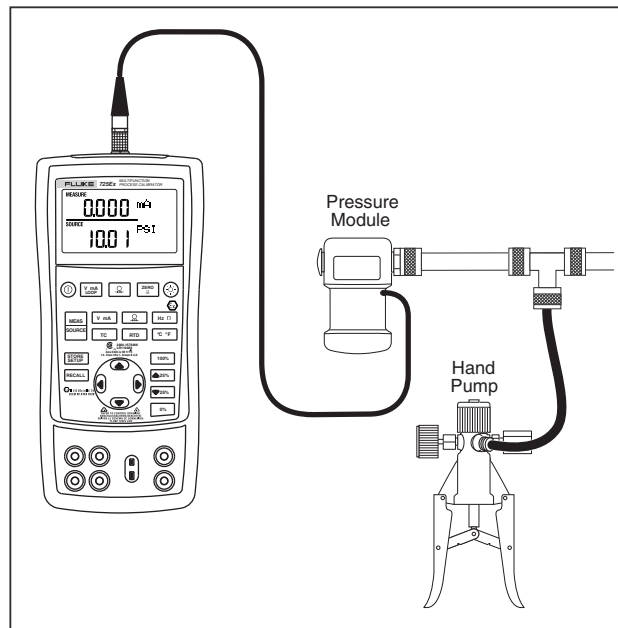

Figure 18. Connections for Sourcing Pressure
The Calibrator can be used to monitor the pressure supplied by a pump or other sources, and will display the pressure in the SOURCE field. Figure 18 shows how to connect a pump to a Fluke pressure module which makes it a calibrated source.
1. Connect a pressure module to the Calibrator as shown in Figure 18. The threads on the pressure modules accept standard 1/4 NPT pipe fittings. Use the supplied 1/4 NPT to 1/4 ISO adapter if necessary.